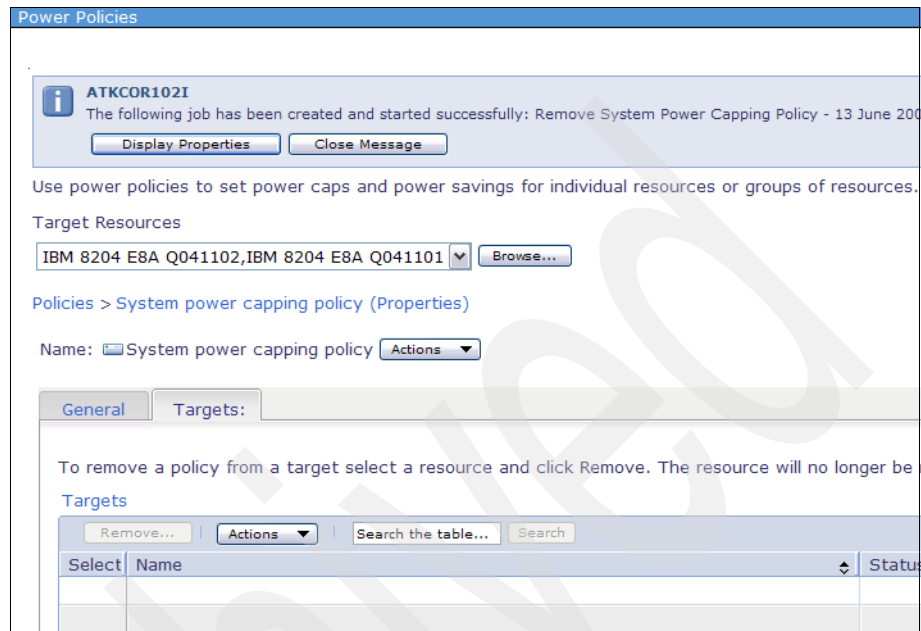

Figure 7-71 Removing a policy - 3
6. You see a confirmation message, and the target systems or groups are removed from the list on the Targets tab (Figure 7-71).